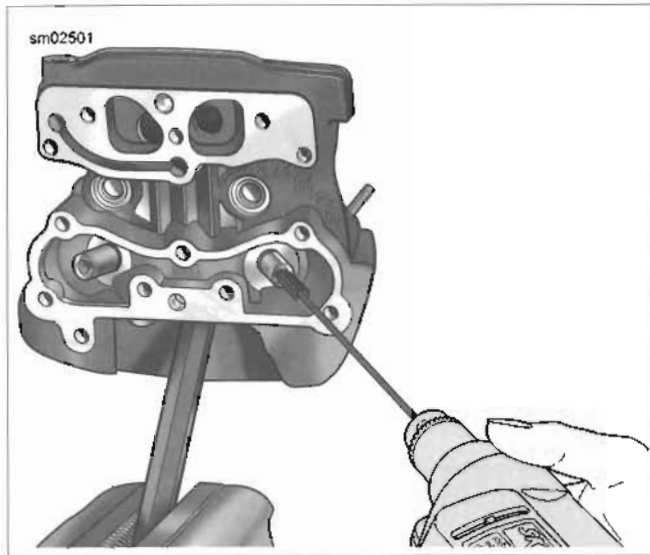

Figure 3-49. Honing Valve Guide Bore
8. See Figure 3-49. Hone bore to finished size.